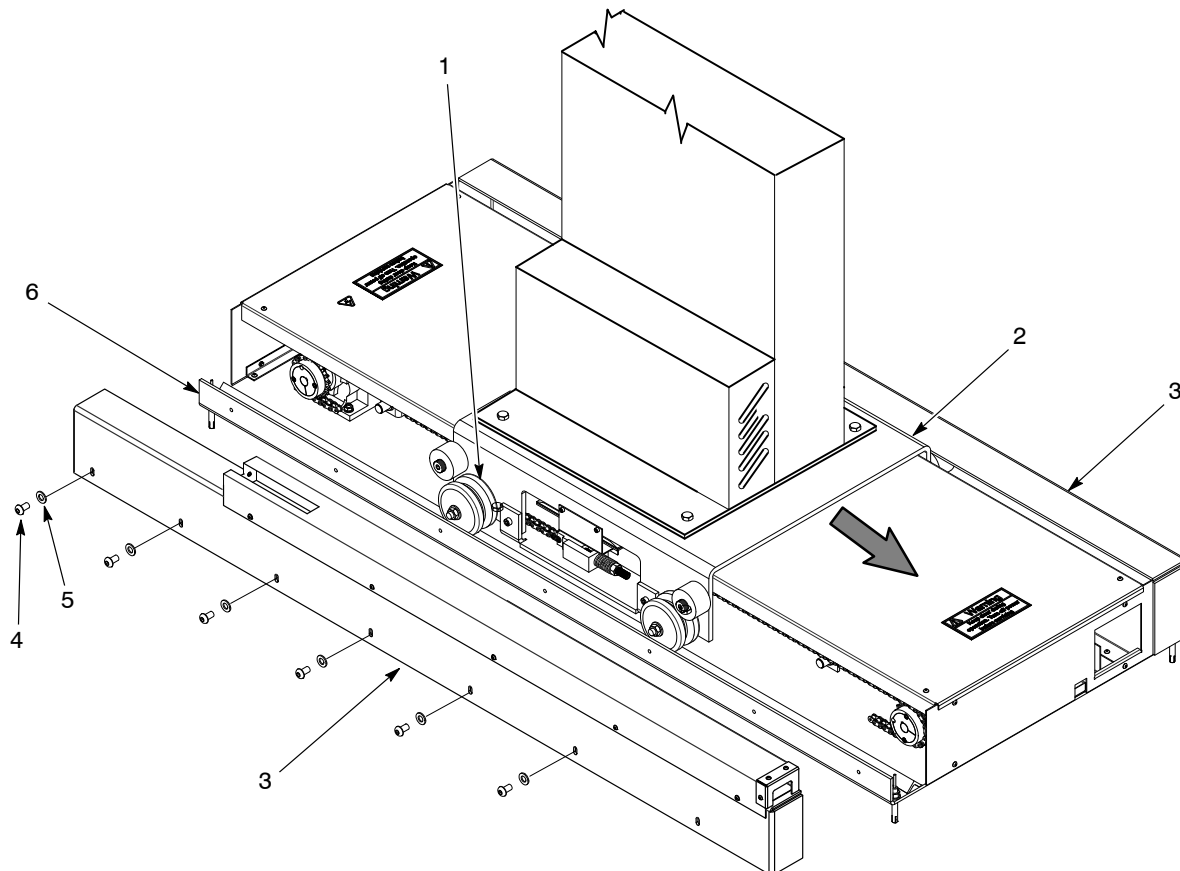

Figure 15 Remove Side Covers from Positioner
1. See Figure 15. Remove the screws (4), washers (5), and side covers (3) from the positioner base (6).
2. Position the carriage (2) with gun stand toward the end of the positioner where wheel is being replaced, aligning the V-groove wheel (1) to a space that allows room to access the inside of the carriage where V-groove wheel flat head screw is located.
1. Remove the side covers as shown in Figure 15. Move the carriage as needed to access the drive chain and chain blocks.
2. Remove the nut (5) from the threaded rod (6). The tensioner spring (4) will slide off the threaded rod.
3. Remove the master links (1) from the chain blocks (2).
6. Attach the chain to the chain blocks (2) using the master links (1).
7. Insert the threaded rod (6) through the chain tensioner block (3). Place the tensioner spring (4) on the threaded rod and tighten with the nut (5).
1. See Figure 15 for removing the side cover to expose the chain sprocket.